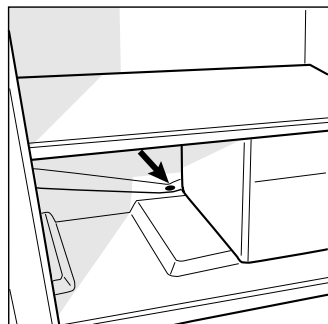

Fig. 6
This appliance defrosts automatically, and the water is ducted to the back of the appliance by a special outlet (fig. 6) where the heat produced by the compressor makes it evaporate. The only thing you must do is to periodically check and clean the hole of the drain, which is located behind the fruit and vegetable crisper, so that the water drains properly.
- The defrost draining is clear from any blockage (fig.6).